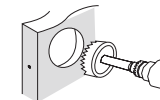

Figure 3a
- Drill 2-1/8" (54mm) hole through door face as marked for lock set (Figure 3a).
- Using a 1/16" (2mm) drill bit, drill a pilot hole in your door using the Mounting Plate upper hole as a guide (Figure 3a).